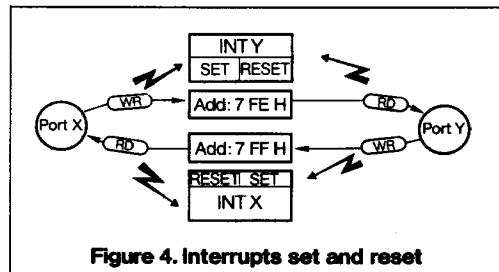

Figure 4. Interrupts set and reset
- a) Two internal interrupt request flags are provided, INTX for Port X, INTY for Port Y. The flags are set or reset when the memory location 7FF or 7FE are accessed (see figure 4).